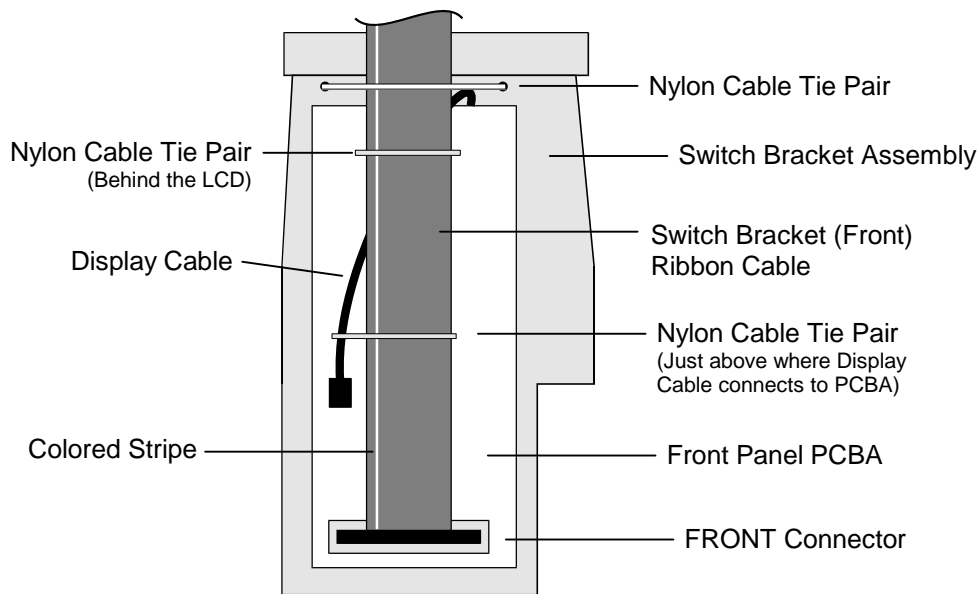

Figure 7-32 Switch Bracket Assembly (Rear View)
6. Clip the Nylon Cable Ties (3 pairs of ties) mounted around the ribbon cable (Figure 7-32), then remove them completely.
7. Unplug the ribbon cable from the FRONT connector on the Front Panel PCBA (Figure 7-32).
1. Plug the Switch Bracket Ribbon Cable into the FRONT connector on the Front Panel PCBA (Figure 7-32). Make sure that the cable is not twisted, and that the colored stripe aligns with the right side of the TLS when viewed from the front. Press the connector in firmly, until both locking tabs on the FRONT connector close over the Switch Bracket Ribbon Cable's connector.
2. Insert a Nylon Cable Tie in through both holes in the Switch Bracket Assembly, just above the LCD (Figure 7-32).
3. Position a second Nylon Cable Tie over the Switch Bracket Ribbon Cable, then attach it to both ends of the Nylon Cable Tie in the Switch Bracket Assembly (Figure 7-32).
6. Starting behind the LCD, position one Nylon Cable Tie behind the Switch Bracket Ribbon Cable and the Display Cable, then position a second Nylon Cable Tie over the both cables, and attach the cable ties to each other (Figure 7-32).
9. Starting above where the Display Cable connects to the PCBA, position one Nylon Cable Tie behind the Switch Bracket Ribbon Cable and the Display Cable. Next position a second Nylon Cable Tie over the both cables, and attach the cable ties to each other (Figure 7-32).